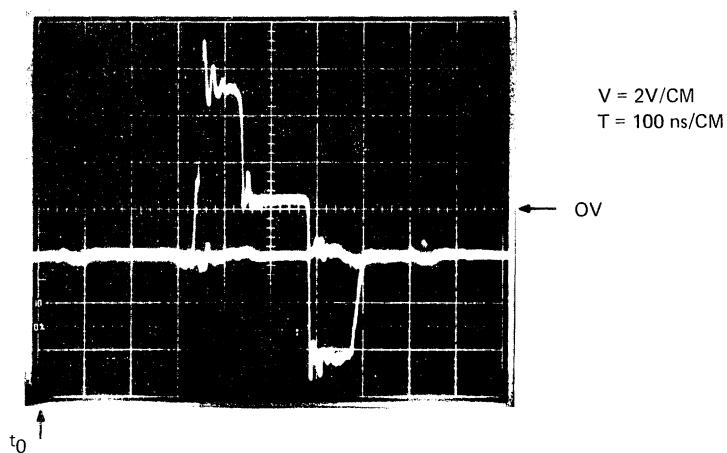
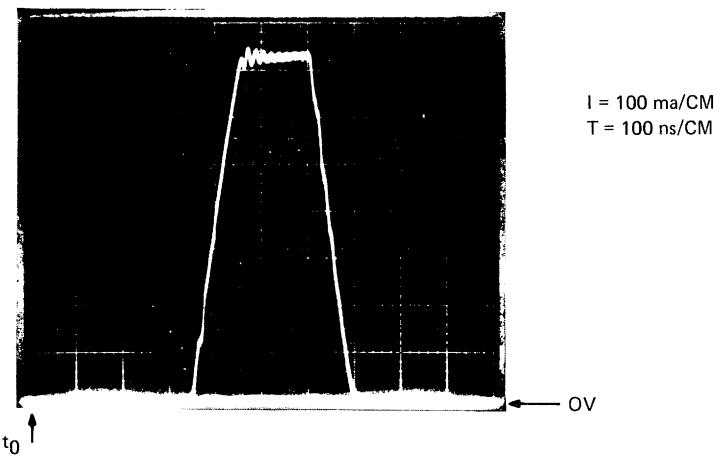

Figure 12. Inhibit Source Voltage Waveform (Pin 118, Conn. A)
Figure 14. Inhibit Current Waveform
5. Improper sense Amplifier operation	<p>Check the sense amplifier outputs available on Pins 10 and 4 of A37-A45 on Sheets 2 through 10.</p> <p>If the waveform is incorrect:</p> <ol style="list-style-type: none"> 1. Check that the V_{THM} is correct (1.9 Volts $\pm .050$ Volts maximum). 2. Check that the sense strobe timing is within tolerance, refer to Test Point Section for the test and adjustment information. 3. Check the inhibit current presence, comparing the voltage waveforms on Figures 12 and 13. <p>If current probe is available, compare with the current waveform on Figure 14.</p> <p>NOTE</p> <p>Inhibit current loop is provided for Bit 16 only.</p>